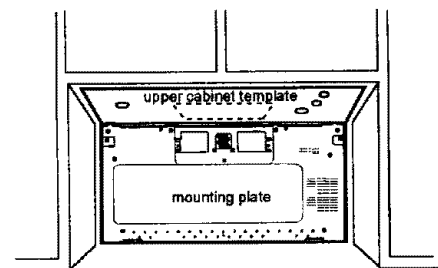

Figure 23
4. Center mounting plate in operating by lining up the plumb line on wall with centerline on mounting plate. Make sure the minimum width is 30 inches and that the top of the mounting plate is located a minimum of 30 inches above the cooking surface. See Figure 23.
5. Measure the bottom of the upper cabinet frame. Trim the edges A, B and C on the upper cabinet template so that the template will fit on the bottom of the upper cabinet. If upper cabinet has a recessed frame, trim the template so it fits inside the recessed area. Align the centerline of the upper cabinet template with the centerline of the mounting plate, then securely tape or tack the upper cabinet template in place. See Figure 23.